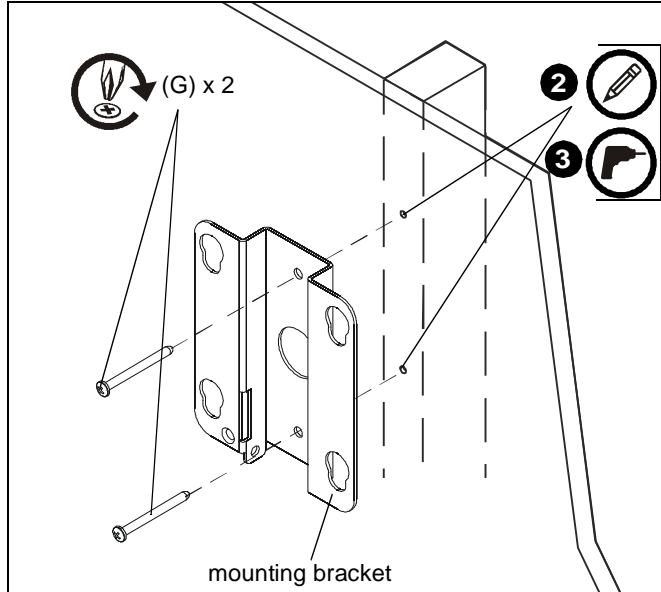

Figure 8
3. Drill two 7/64" diameter pilot holes at marked spots into wood stud. (See Figure 8)
4. Install two #12 x 2-1/2" Phillips wood screws (G) through bracket and drywall into wood stud. (See Figure 8)
5. Ensure bracket is vertical, then tighten screws (G).